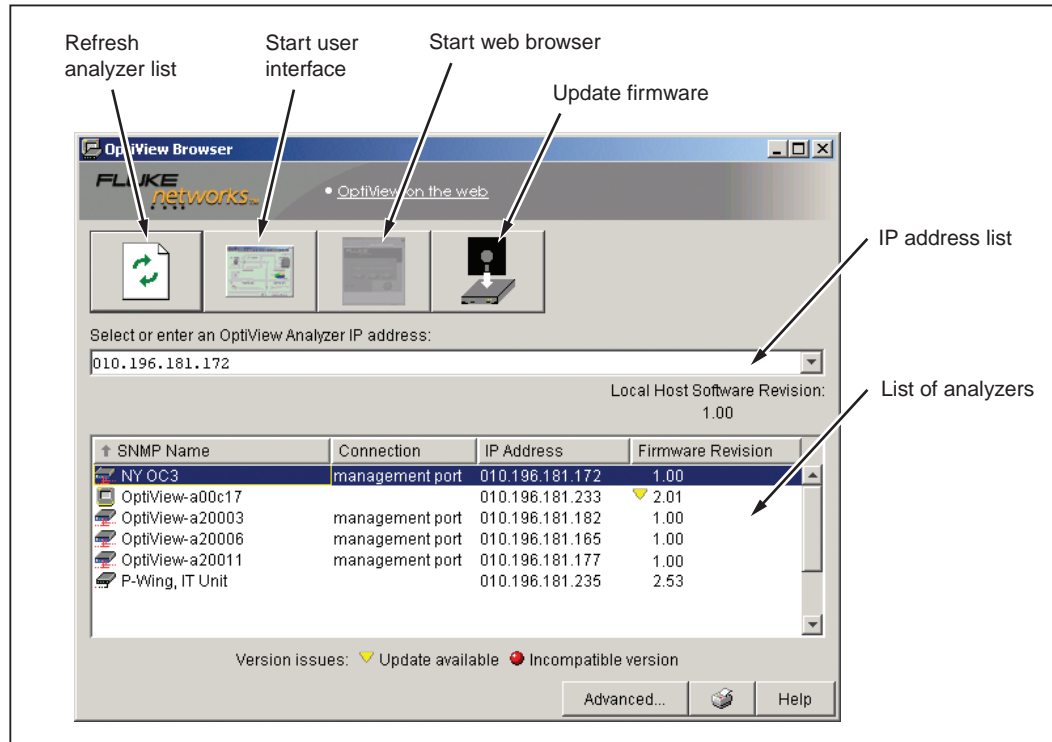

Figure 7. The OptiView Browser
The analyzer is properly connected if you can connect to it through the **OptiView Browser** (Figure 7) and display the **Front Page** (Figure 9).
The **OptiView Browser** (Figure 7) is displayed.
- Select the analyzer from the list of analyzers at the bottom of the screen. Then, click the Start User Interface button (Figure 7).
The **OptiView Browser** (Figure 7) is the first screen that you see when you start the remote user interface software on the remote controlling PC. From this screen, you can access any OptiView analyzer within the network that has a path to the remote controlling PC.